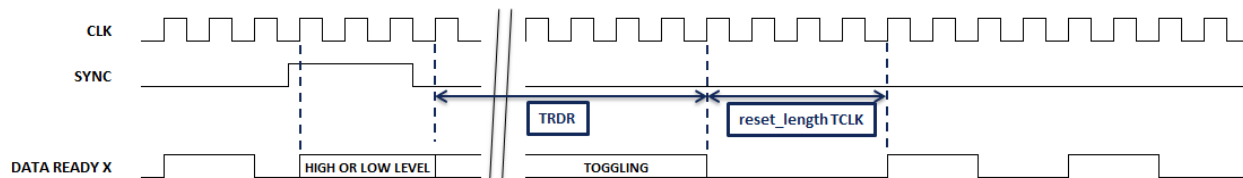

Figure 5: SYNC timing diagram in DEMUX 1:1
4. Refer to timing diagram in Figure 5